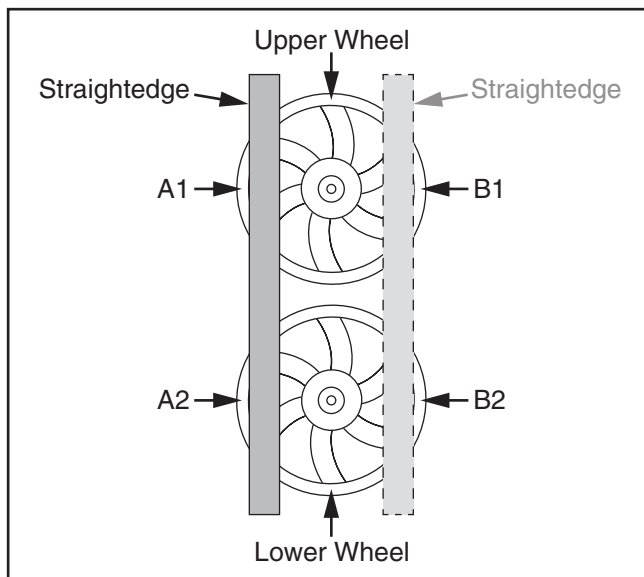

Figure 57. Example of using a straightedge to check lateral wheel alignment.
3. Use a straightedge to check wheels at A and B locations (see **Figure 57**). The wheels should align
4. Mark upper and lower wheels with a pencil or marker to indicate measuring locations (see **Figure 57**).